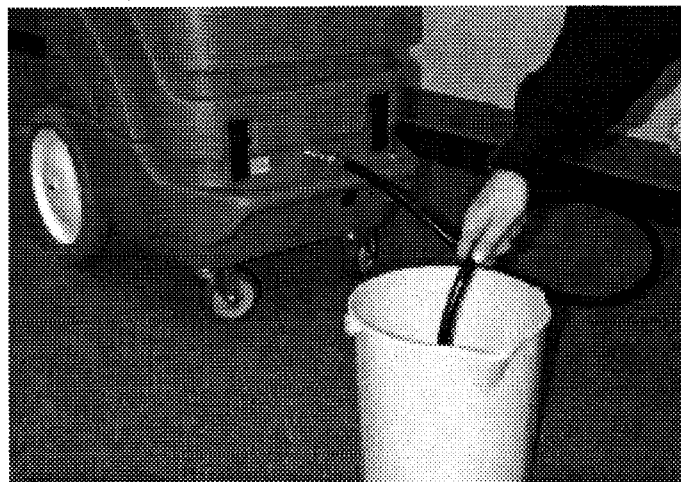

Fig. 12
2. Activate "PUMP" switch. Pump solution into a empty bucket. (Figure 12)